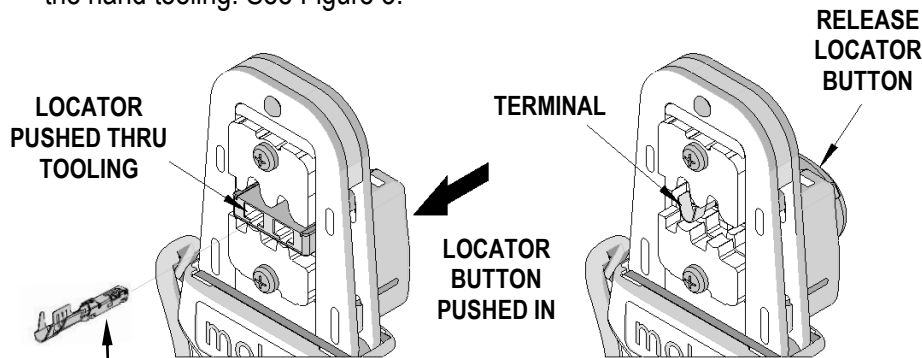

Figure 3
3. While holding in the locator button, load the terminal into the proper nest opening in the locator based on the wire gauge or terminal type markings on the hand tooling. See Figure 3.